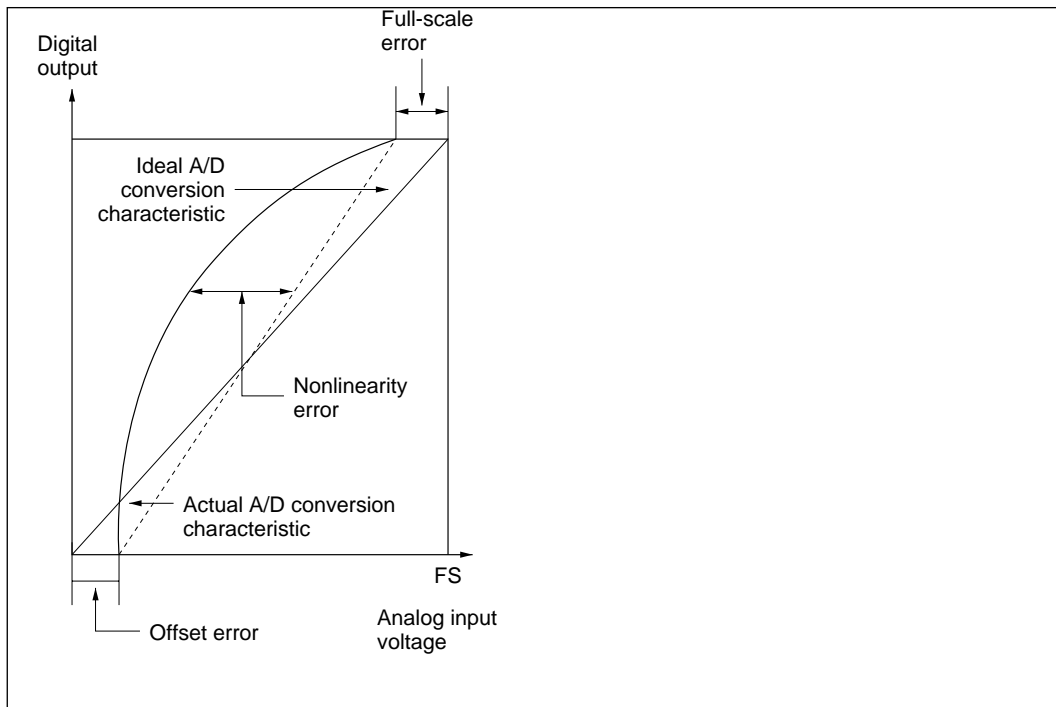

Figure 15-10 A/D Converter Accuracy Definitions (2)
- Offset error:Deviation from ideal A/D conversion characteristic of analog input voltage required to raise digital output from minimum voltage value 0000000000 to 0000000001 (figure 15-10)
- Full-scale error:Deviation from ideal A/D conversion characteristic of analog input voltage required to raise digital output from 111111110 to 111111111 (figure 15-10)